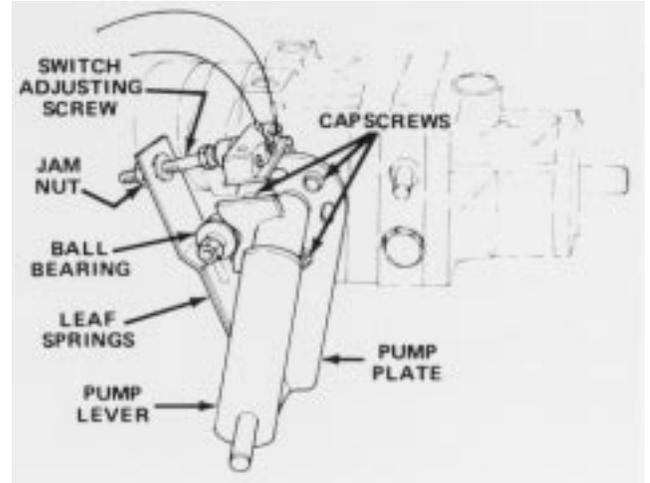

Figure 56
1. Park vehicle on a level surface and turn engine off. Apply the parking brake, tip seat forward, and actuate pump lever (Fig. 56) to insure assembly is properly seated and operating freely. Correct any discrepancy.
6. Because the wheel is rotating, the pump plate must be adjusted. But before adjusting the pump plate, move throttle to SLOW. If wheel is rotating forward, loosen capscrews, and lightly tap bottom of pump plate counterclockwise (Fig. 56). By contrast, tap pump plate clockwise if wheel is rotating backward (Fig. 56). When wheel stops rotating, tighten capscrews holding pump plate against side of transmission. Verify the adjustment with throttle in SLOW and FAST position.
- A. Ball bearing is loose or worn out (Fig. 56).
F. Weak or damaged leaf springs (Fig. 56).
2. Actuate the pump lever (Fig. 56) to insure all parts are operating freely and seated properly.
3. Loosen jam nut. Rotate switch adjusting screw (Fig. 56) until there is a gap between head of screw and switch button.